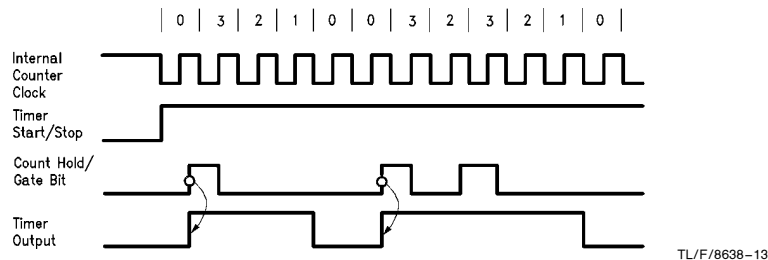

FIGURE 11. Timing Waveforms for Timer Mode 3, Output Programmed Active High
This mode is different from the previous three modes in that this is the only mode which uses the external gate to trigger the output. Once the timer Start/Stop bit is set the output stays inactive, and nothing happens until a positive transition is received on the G1 or G0 pins, or the Count Hold/Gate (CHG) bit is set in the timer control register. When a transition occurs the one shot output is set active immediately; the counter is loaded with the value in the input register on the next transition of the input clock and the countdown begins. If a retrigger occurs, regardless of the current counter value, the counters will be reloaded with the value in the input register and the counter will be restarted without changing the output state. See Figure 11. A trigger count can occur at any time during the count cycle and can be a hardware or software signal (G0, G1 or CHG). In this mode the timer will output a single pulse whose width is determined by the value in the input data register (N) and the input clock period.